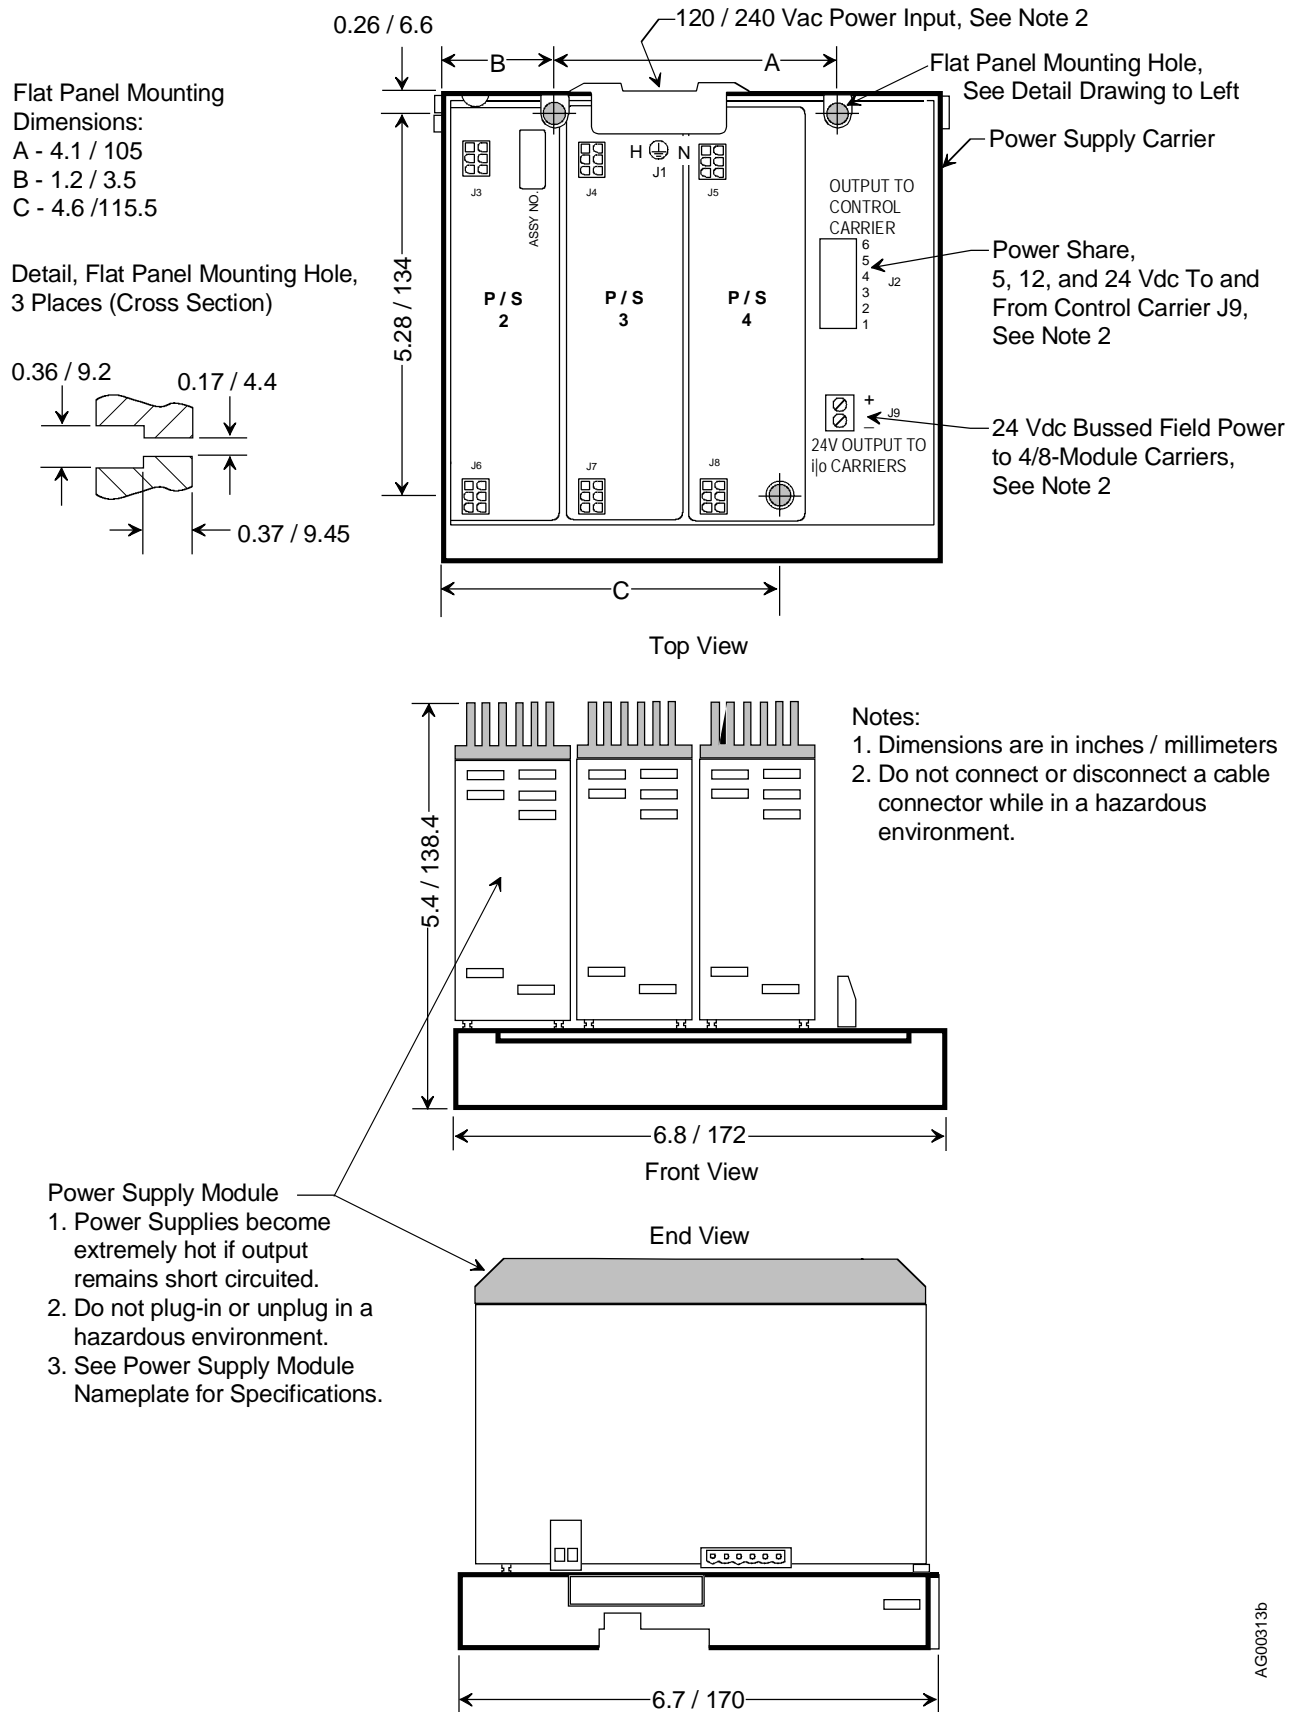

FIGURE 8-10 Installation Dimensions and Connections
2. Refer to Figure 8-10 for mounting dimensions and for the mounting hole detail.
Dimensions and Flat Panel Mounting Pattern	See Figure 8-10